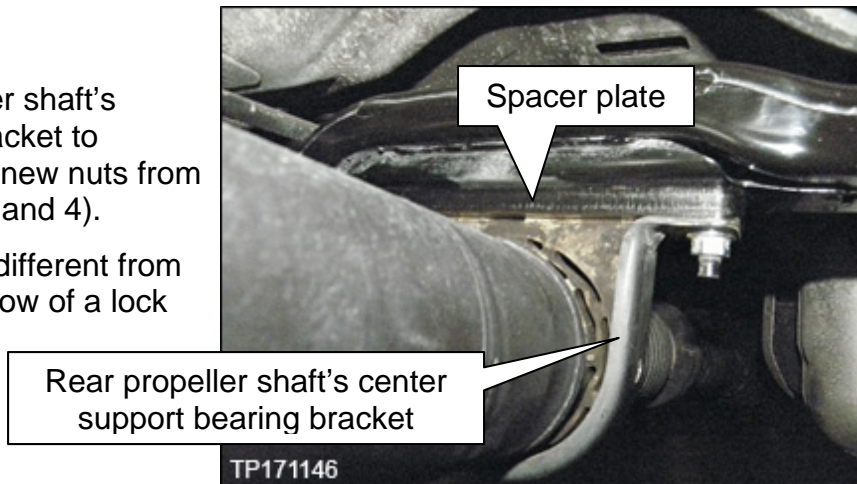

Figure 3
3. Re-install the rear propeller shaft's center support bearing bracket to vehicle frame with two (2) new nuts from Part Information (Figure 3 and 4).